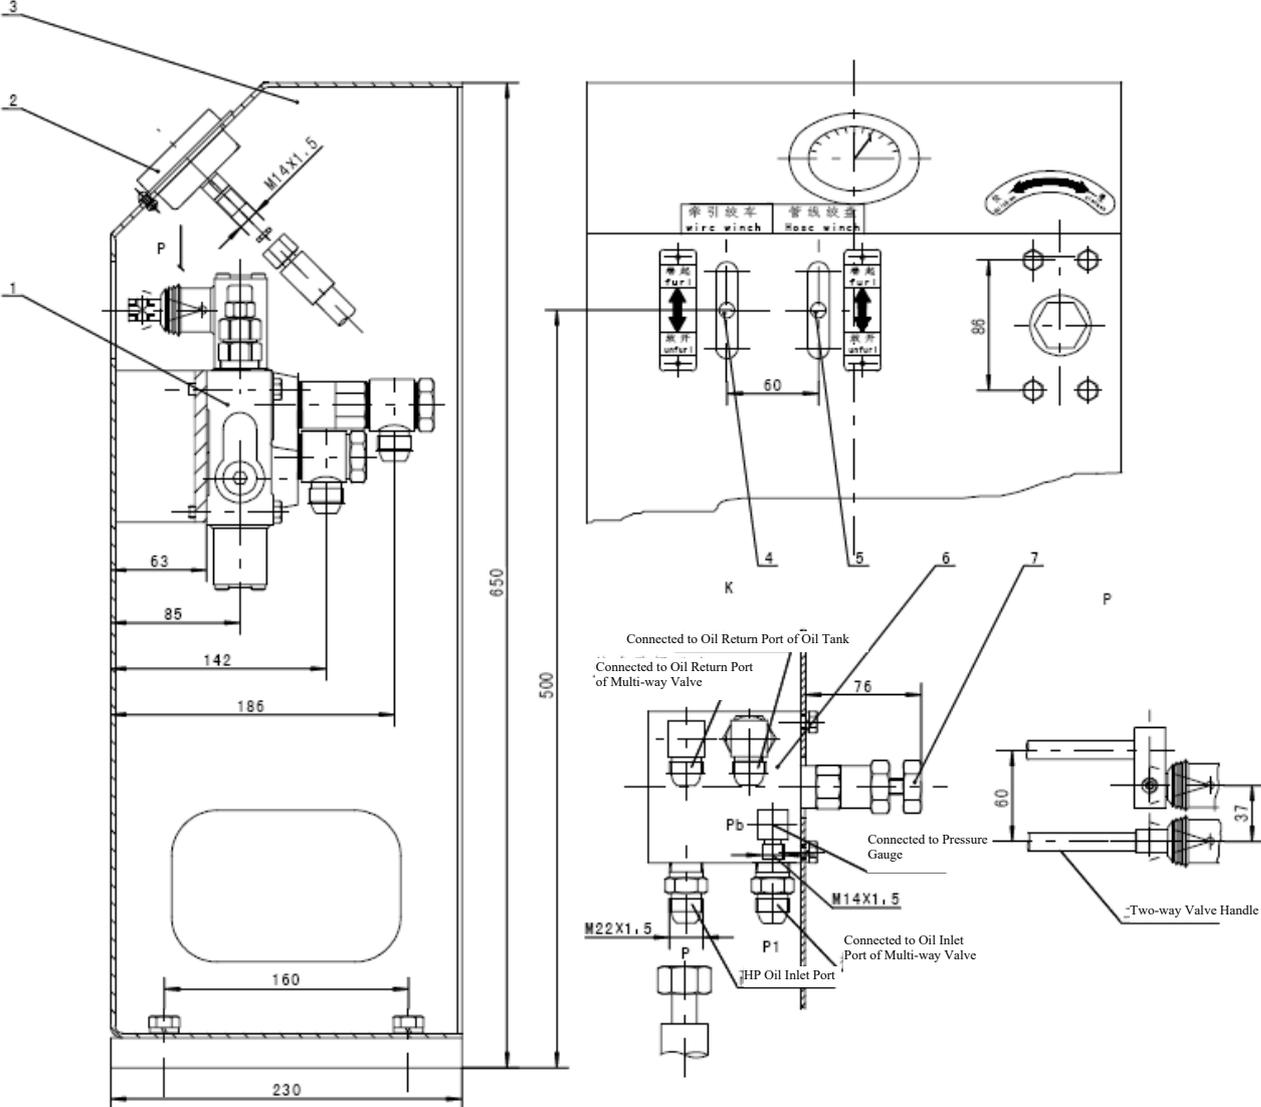

Fig 2-4-1 Auxiliary Operation Panel
1) The auxiliary operation panel is a two-way operation panel, used to control over operation of positive/negative rotations for both wire winch and hydraulic hose winch, as indicated in Fig 2-4-1. The Multi-way Reversing Valve (1), the Pressure Gauge (2), the Three-way Flow Rate Valve (6), and other parts are installed inside the Case Body (3), to achieve the positive/negative rotation of wire winch and hydraulic hose winch, by turning the Operating Handle (4) of wire winch or the Operating Handle (5) of hydraulic hose winch up and down. When the output speeds of wire winch and hose winch are too fast or too slow, the speed may be adjusted through turning the Flow Rate Adjusting Handle (7). The operating pressure of auxiliary